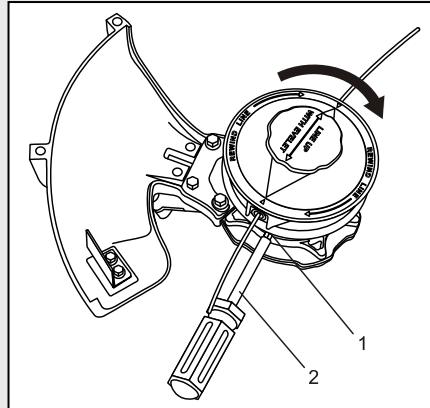

Fig. 8
1. Rotate the bump head until the slot in plastic line guard is aligned with the matching slot (1) in the lower motor casting (Fig. 8).
2. Insert an appropriate sized screwdriver (2) or hex key into the slot in the casting and into the slot in the plastic line guard.